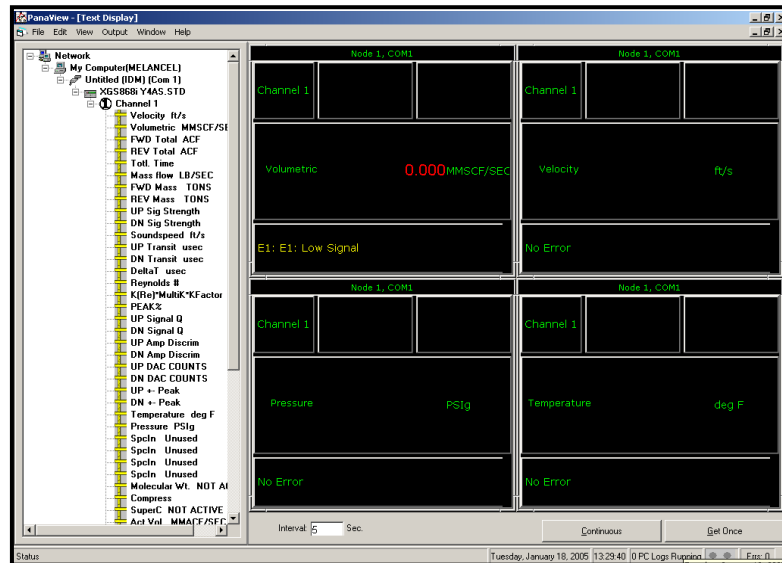

Figure 20: Multiple Text Screens in the *Text Display* Window
2. Repeat Step 1 for any desired additional process parameters, by double clicking on them in the PanaView network tree. PanaView automatically tiles the multiple text screens in the right pane of the *Text Display* window, as shown in *Figure 20*.